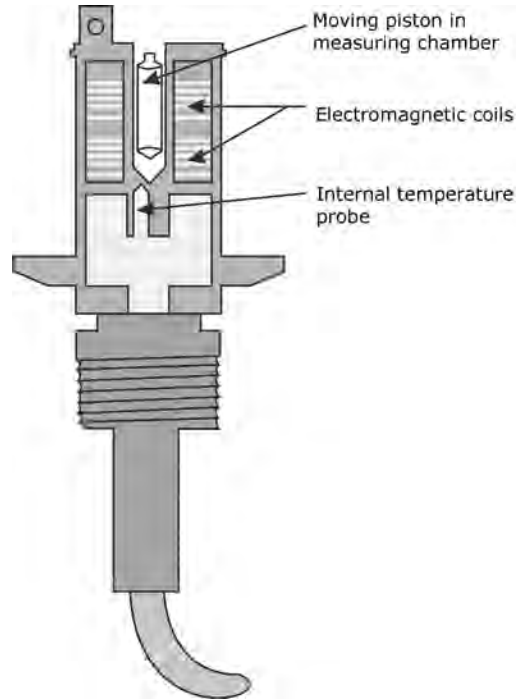

FIGURE 1.5 Cambridge moving piston viscometer.
■ A Cambridge moving piston viscometer is illustrated in Figure 1.5.